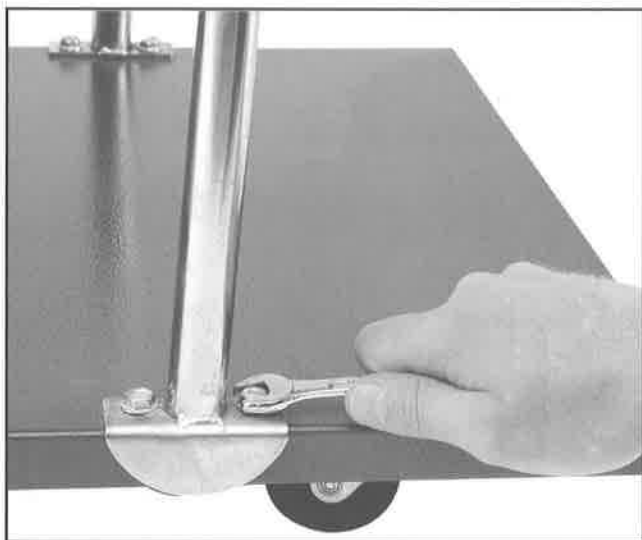

Figure 5. Mounting brackets to base.
There are two lower collector support brackets and one upper bag support bracket. Attach the collector brackets to the top edge of the base plate using four (4) $\frac{5}{16}$ "-18 x $\frac{1}{2}$ " hex bolts provided, as shown in **Figure 5**.